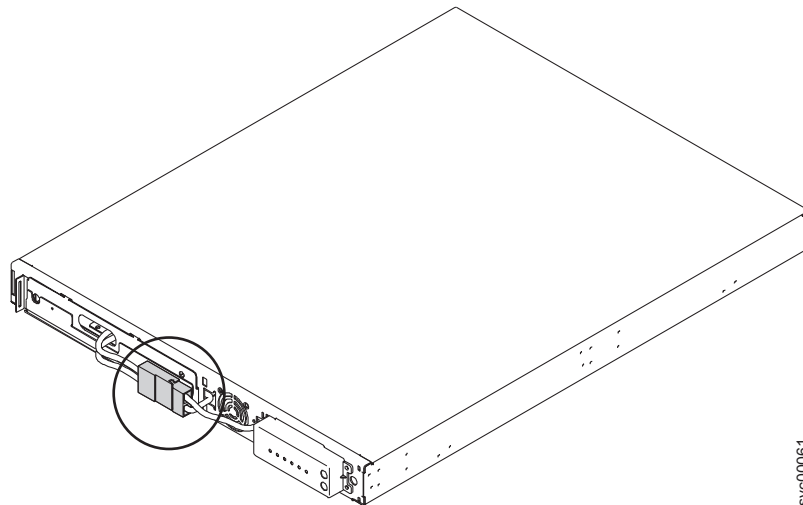

Figure 31. The 2145-1U uninterruptible power supply internal battery connector
5. Connect the internal battery connector (shown in Figure 31). Each end of the keyed connector has two wires: one red (+) and one black (-). Join the black wires and the red wires together.